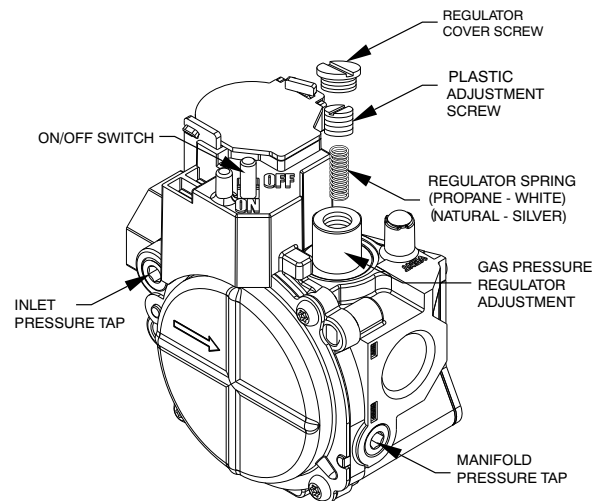

Fig. 16 – Single-Stage Gas Valve
1. Remove regulator cover screw over plastic adjustment screw on gas valve (See Fig. 16).
2. Turn plastic adjustment screw clockwise to increase gas input, or turn plastic adjustment screw counterclockwise to decrease input (See Fig. 16). Manifold pressure must be between 3.2 and 3.8 IN. WC.
3. Replace regulator cover screw on gas valve (See Fig. 16).